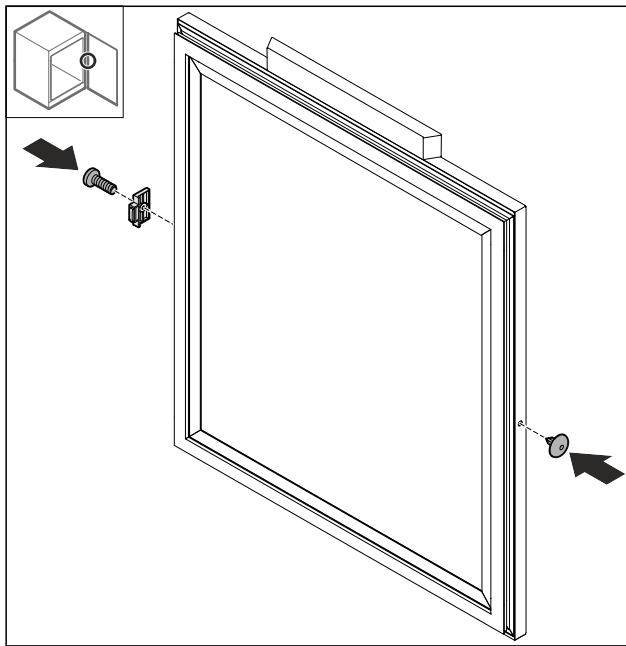

Fig. 49
- ▶ Mount the door stopper Fig. 49 (1) turned by 180° on the opposite side.
- ▶ Insert the cover Fig. 49 (2) on the opposite side.